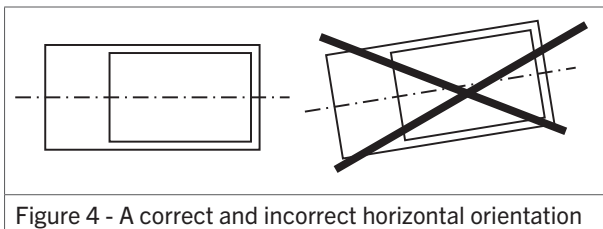

Figure 4 - A correct and incorrect horizontal orientation
- Install the heater horizontally without an inclination (figure 4).